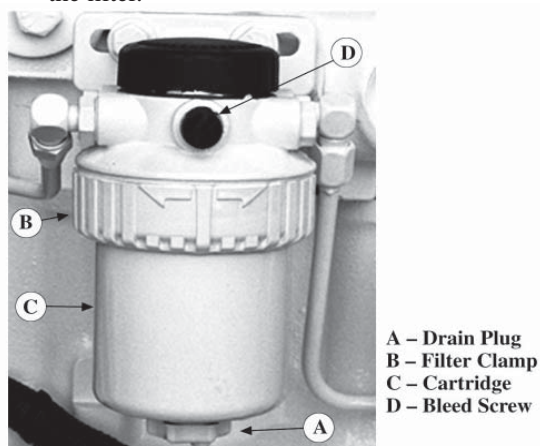

Figure 14: Secondary Fuel filter
- Open the filter drain plug (Figure 14-A) and drain the filter.
- Remove the secondary fuel filter by turning the filter clamp (Figure 14-B) counter clockwise until the filter cartridge (Figure 14-C) slides out.